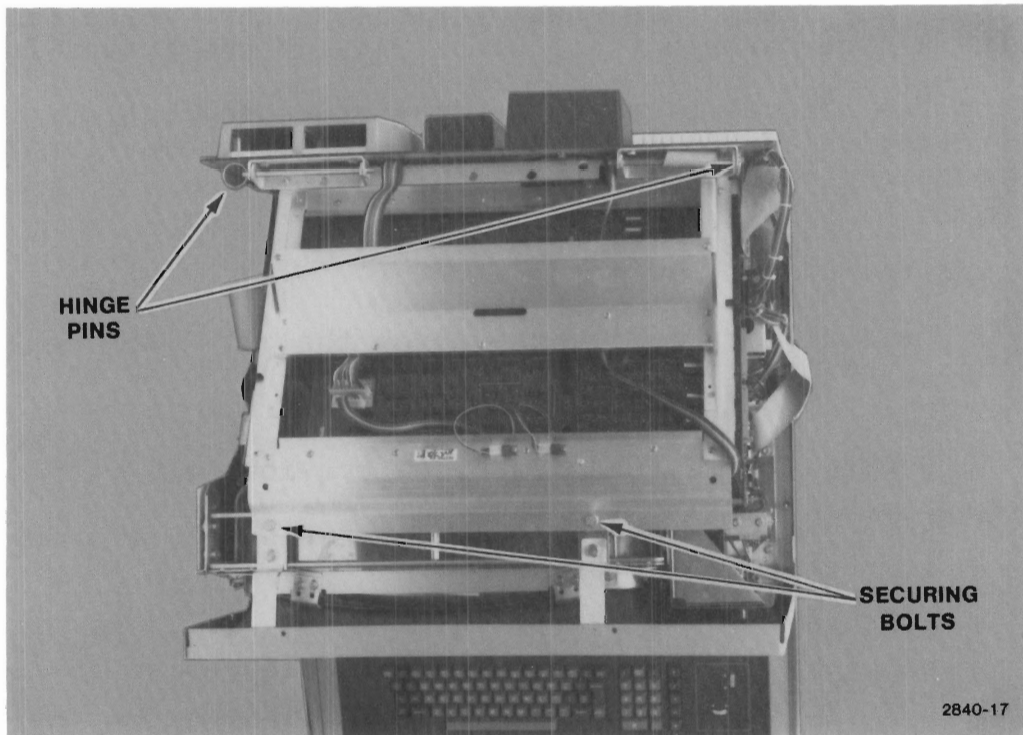

Figure 3-28. ALU/Memory Board Set Removal.
1. This board set is held in place by two bolts through the crt module bracket and two hinge pins at the back. To gain access to much of the rest of the instrument, remove the front two bolts and fold the boards back out of the way. See Figure 3-28.